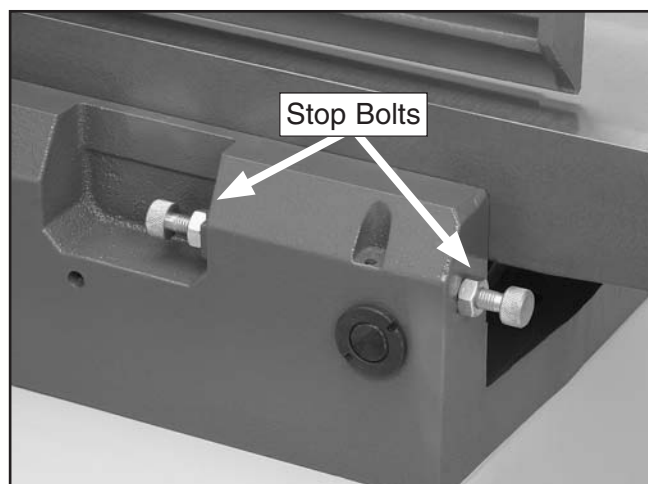

Figure 60. Outfeed table positive stop bolts.
3. Loosen the outfeed table lock located at the front of the machine, and loosen the jam nuts and positive stop bolts located at the back of the machine just behind the outfeed table (see **Figure 60**).